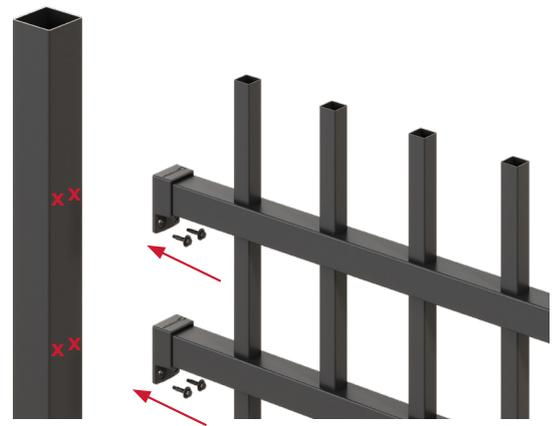

Fig. 8
2. Measure and mark the positions of the brackets on the posts, and fit the panel into place between the posts. Check it is all straight and level then fix into place using the provided tek screws. *Fig. 8*